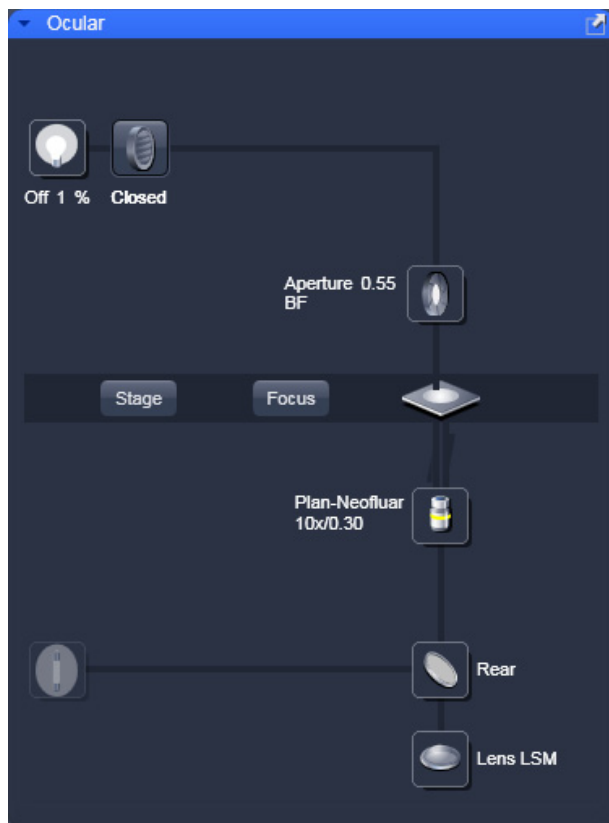

Fig. 9-116 Light Path - Ocular tab
- Choose in the LSM **Light Path** the register **Ocular** (Fig. 9-116)